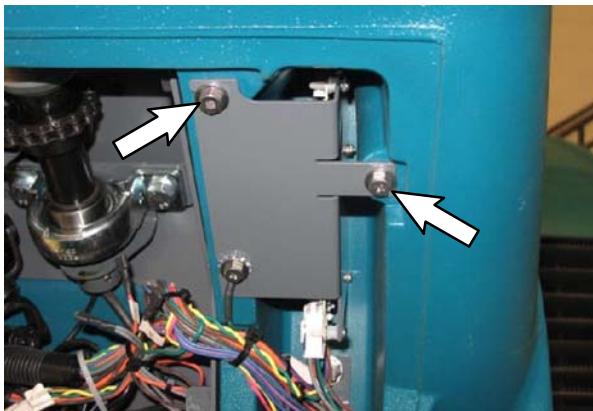

FIG. 24
54. Use two M6 hex screws(11) and two flat washers (12) to install the side brush circuit board bracket (13) onto the steering shroud. (Fig. 24)